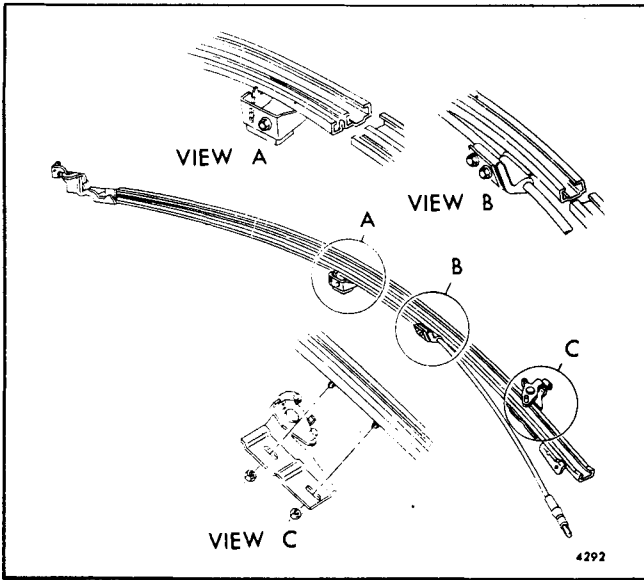

Fig. 9-16-Window Right Cam Guide and Drive Cable Details
6. Disengage drive cable at attaching bracket on cam guide (Fig. 9-16).
upward to remove slack from cable and position bell crank. Tighten stop attaching nuts (View "C" Fig. 9-16).